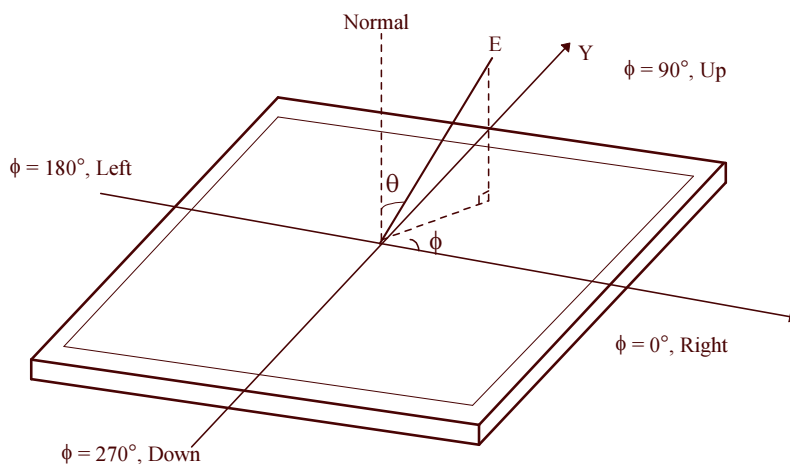

FIG. 10 Viewing angle
5. **Viewing angle** is the angle at which the contrast ratio is greater than 10 or 5. The angles are determined for the horizontal or x axis and the vertical or y axis with respect to the z axis which is normal to the LCD surface. For more information see FIG. 10.